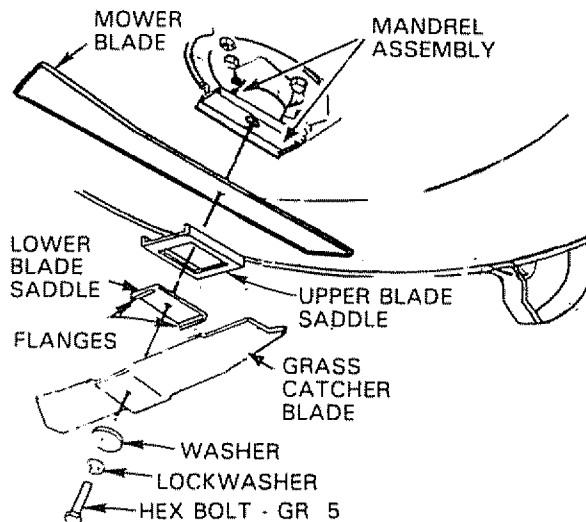

FIGURE 3 -
**DISCONNECT THE SPARK PLUG WIRE(S) FROM THE SPARK PLUG(S) AND KEEP WIRE(S) AWAY FROM THE PLUG(S) TO PREVENT INJURY FROM ACCIDENTAL STARTING.**
8. Mount grass catcher blades, lower blade saddles, upper blade saddles and mower blades to mandrel assemblies (Fig. 3) using: two 3/8 - 24 x 1 - 3/4 hex bolts gr.5, two lockwashers and two washers (shown full size below). Grass catcher blades, lower blade saddles, upper blade saddles and hardware furnished with grass catcher.
- a. Return mower blade (Fig. 3) to original position against mandrel assembly.
- b. Place upper blade saddle and lower blade saddle (Fig. 3) on mower blade. NOTE: Position flanges as shown in Fig. 3.
- c. Place grass catcher blade in lower blade saddle. NOTE: Be sure pointed edges of grass catcher blade are facing upward (Fig. 3).
- d. Secure grass catcher blade assembly to mandrel assembly using hex bolt, lockwasher and washer (Fig. 3). Tighten securely. NOTE: Lower blade saddle must be seated inside upper blade saddle (Fig. 3 - Inset). Repeat procedure for other blade.